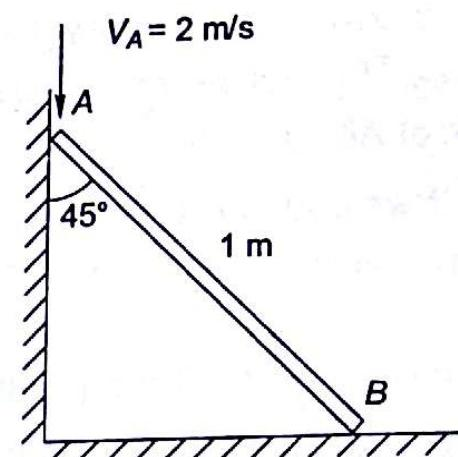

Fig. 12.17
12.3 A rod AB, 1 m long is moving along vertical and horizontal planes as shown in Fig. 12.17. End A of rod is moving downwards with a constant velocity of 2 m/s. Choose B as a reference point, express the given motion as equivalent to a translation with A and simultaneous rotation about B.